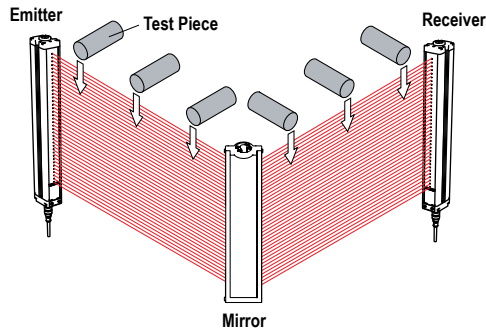

Figure 31. Trip Test with Corner Mirror
5. If mirrors are used in the application: Test the defined area on each leg of the sensing path (for example, emitter to mirror, between mirror and receiver, see Figure 31 on page 50).